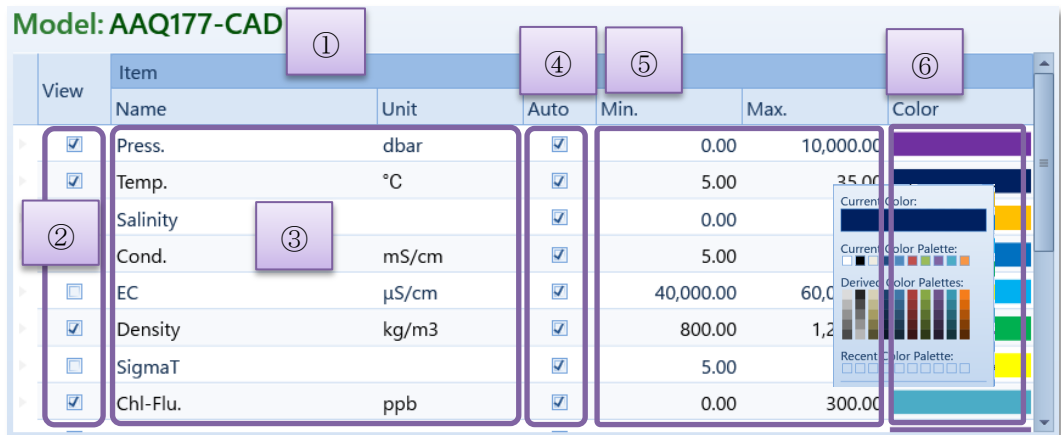

Figure 7.3 Display item setting
- (1) Open “Option” window and choose “Plot items”. (Figure 7.3, Table 7.3)